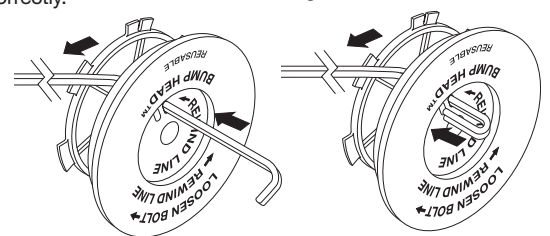

Fig. 31
8. Take approximately 9 feet (3 m) of new trimming line. Insert one end of the line through one of the two holes in the inner reel (Fig. 31). Pull the line through the inner reel until only about 4 inches is left out.
9. Insert the end of the line into the open hole in the inner reel and pull the line tight to make the loop as small as possible (Fig. 31).